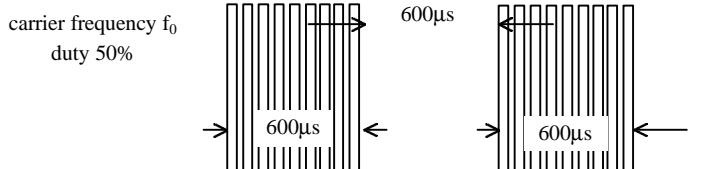

Fig 1. Burst Wave
- (3) Standard transmitter ... Burst wave indicated in Fig 1. of standard transmitter